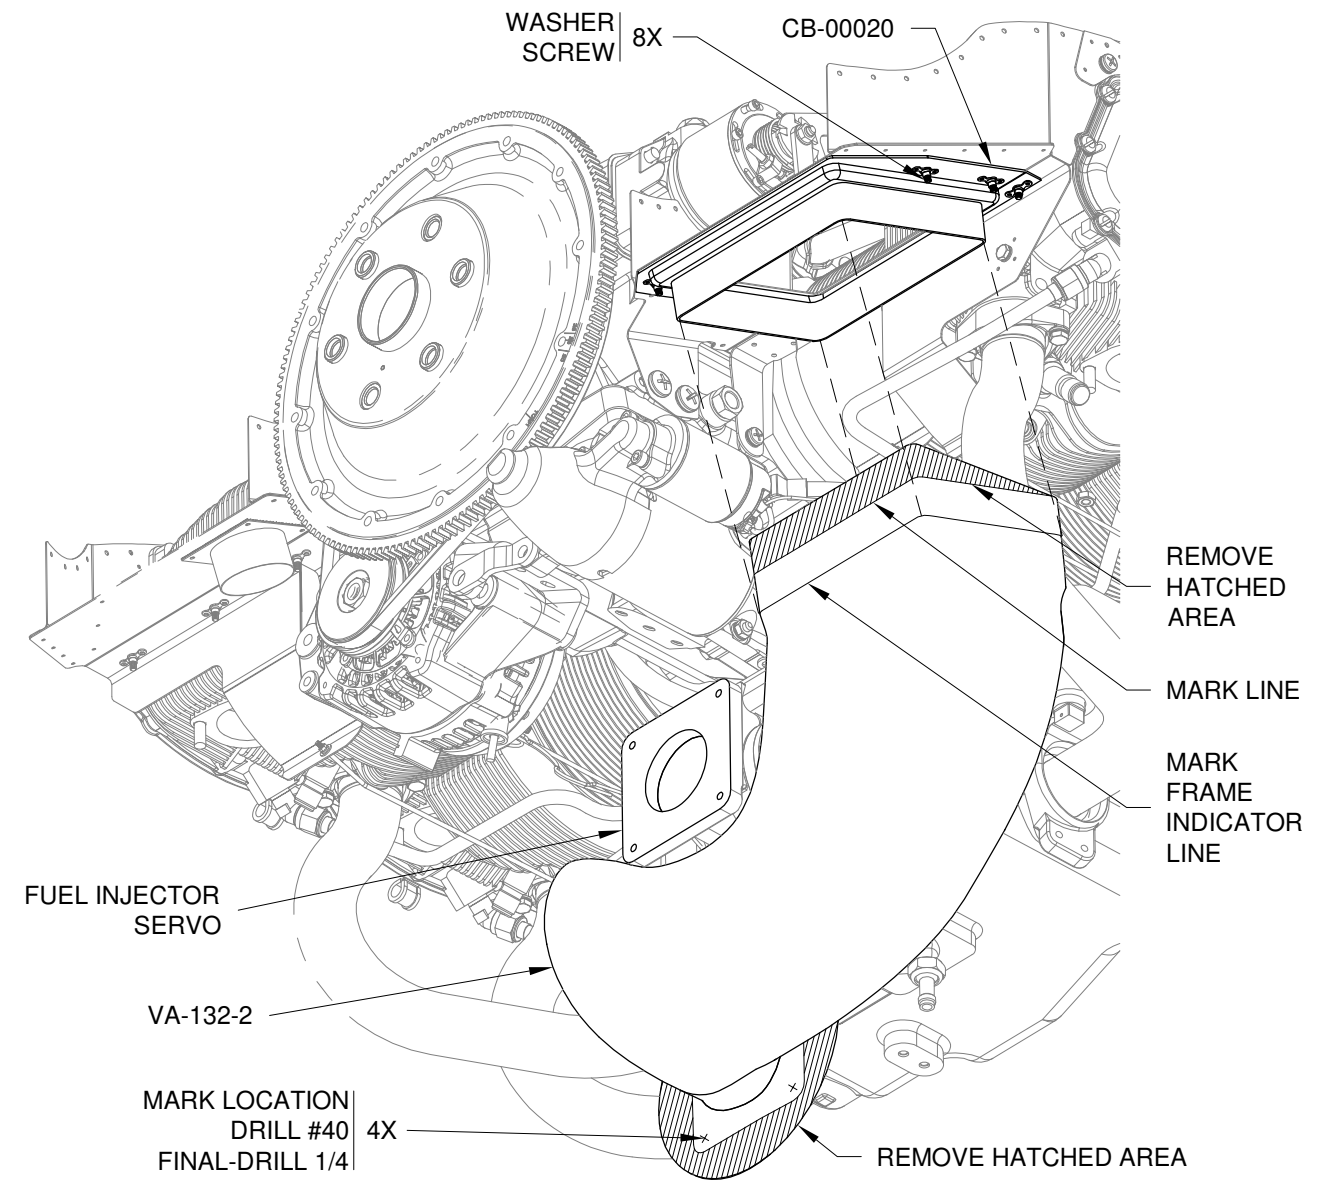

FIGURE 2: TRIM SNORKEL
Step 16: Remove any material from the snorkel flange that lies outside the traced outline of the fuel injector servo. See Figure 2 and Figure 4.